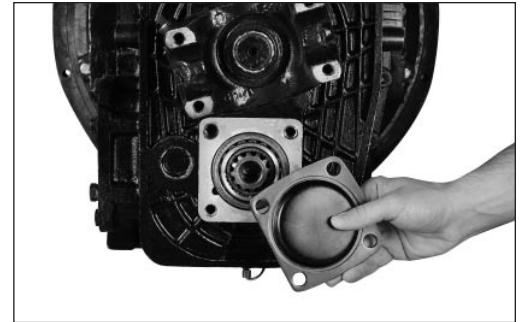

Figure 1
2. Remove extended countershaft bearing cover and gasket from transmission. Clean aperture surface and threaded holes (See **Fig. 1**).